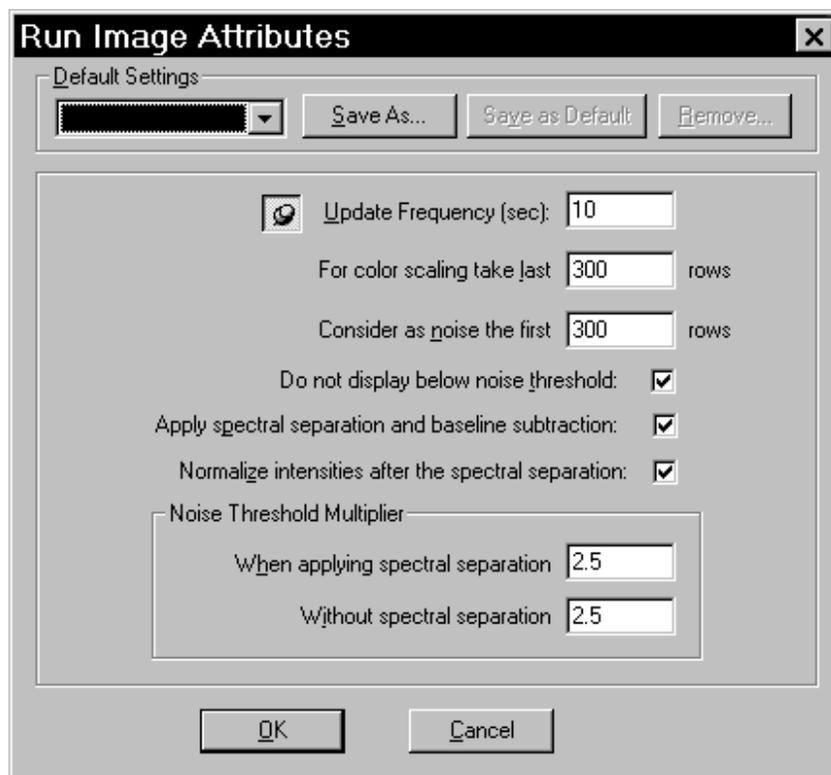

Figure 16-4. The Run Image Attributes window.
1. Choose **Run Image Attributes** from the Options menu. The Run Image Attributes window appears (figure 16-4).